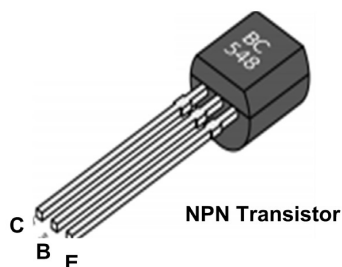

Fig. P18.1: TO-92 package of transistor
The transistors are available with various packages in the market. Consider about the TO-92 package shown in Fig. P18.1. Keep the transistor such that the flat surface facing upwards.
2. Connect the multimeter as shown in Fig. P18.1.